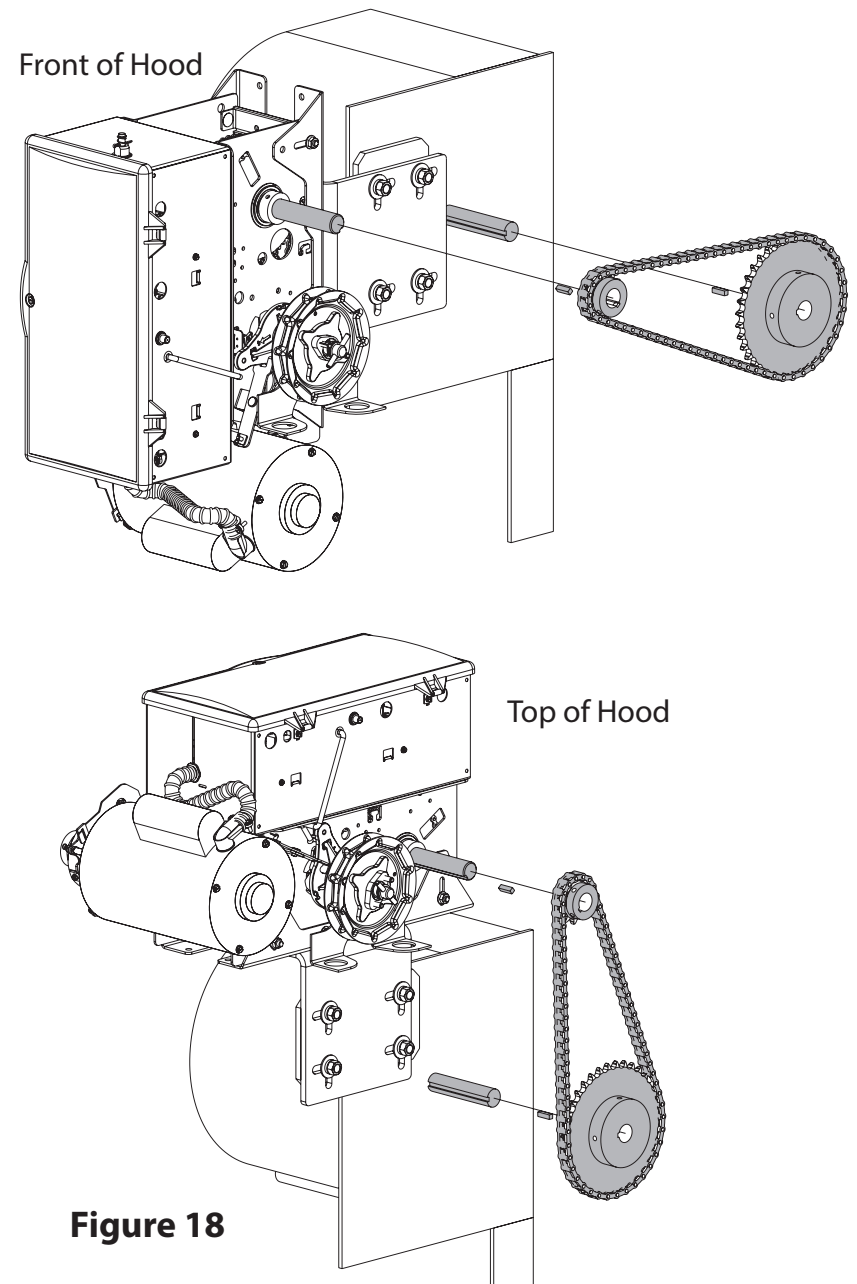

Figure 18
- Mount operator assembly to weld plate and install mounting hardware, do not tighten. See Figure 18